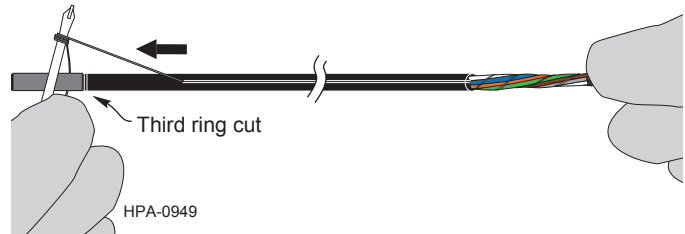

Figure 16
**Step 8:** Wrap the end of one of the exposed ripcords around the shaft of a small screwdriver and pull it through the outer jacket until it passes through the third ring cut at the tape wrap (Figure 16).